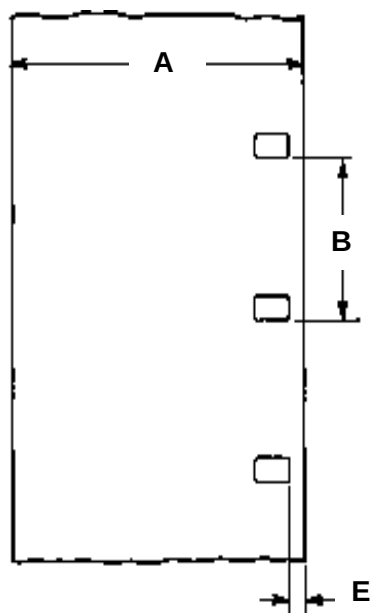

Figure 1 – 16-mm film perforated 1R
3.1 The dimensions and tolerances shall be as given in table 1 and in the accompanying figures 1, 2, and 3.